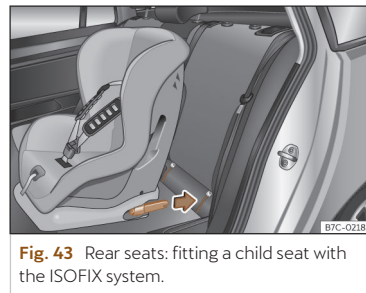

Fig. 43 Rear seats: fitting a child seat with the ISOFIX system.
• Press the child seat onto the ISOFIX or iSize retaining rings until it is heard to engage securely >>> **Fig. 43.** If the child seat is equipped with Top Tether anchor points, secure it to the correspondent ring >>> page 63. Follow the child seat manufacturer's instructions.